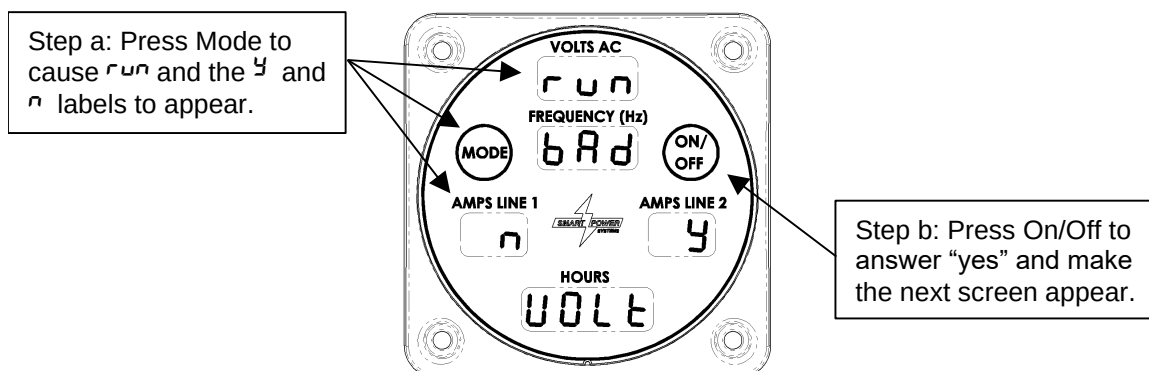

Figure 27 – Voltage Range Fault Override
- a. From the Normal mode display, press Mode, as if you wanted to display the oil temperature. The screen shown in Figure 27 will be displayed instead, asking if you want to “run [with] bAd UOLt[age].”